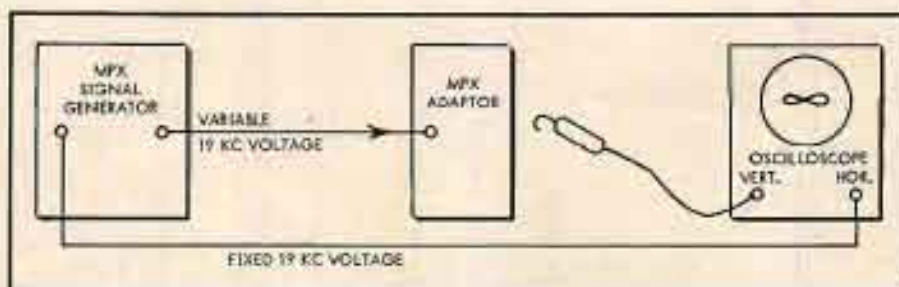

Fig. 2. Test setup for synchronization alignment.
a. A voltage-variable and accurate 19-kc signal is required for these adjustments. This signal is connected to the input of the adapter. It is best to use an oscilloscope to monitor stability of synchronization and peak tuning of the tuned circuits. The test setup is shown in Fig. 2.